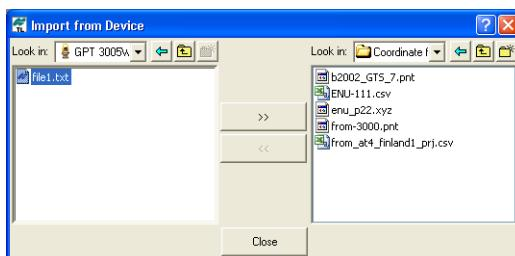

Figure 2-27. Select File
7. In the right panel of the ***Import From Device*** dialog box (Figure 2-27), navigate to and select, or create, the folder in which to save the files.